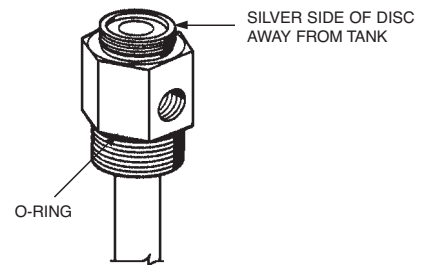
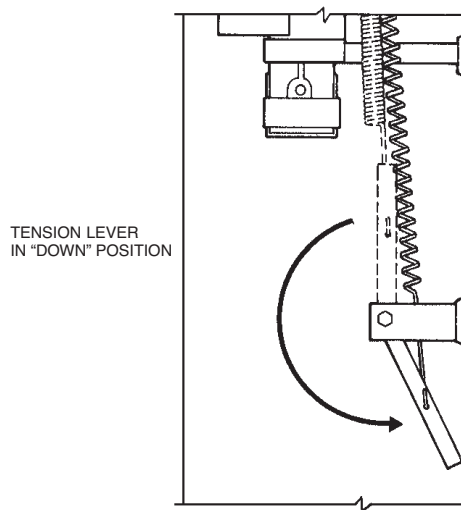

FIGURE 3
FIGURE 6
9. Make certain that each tank is filled with 1.5 (5.8 L) or 3.0 (11.6 L) gallons of only ANSULEX Low pH Liquid Fire Suppressant. See Figure 3. See Page 5-2.1, Figure 6, for detailed filling tolerances.
10. Examine threads on each tank adaptor and tank collar for nicks, burrs, or cross-threading. Clean and coat O-ring with a good grade of extreme temperature grease. See Figure 3. Remove 1/4 in. vent plug and clean and inspect for free movement and corrosion (replace if necessary). Reinstall vent plug. Make certain bursting disc is in place and silver side is away from tank. Clean seating surface and return adaptor/tube assembly to each tank. Tighten securely.
19. Lower tension lever to "DOWN" position. See Figure 6.